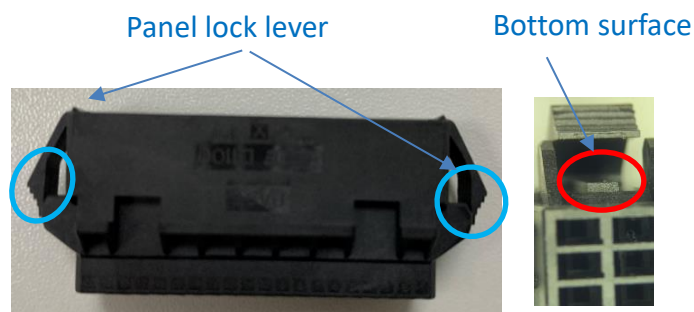

Fig 7 Housing For Panel Mount Type
- ❖ During the uninstallation process, do not apply unnecessary force when the lock level touch the bottom surface, as fig 7 shown.